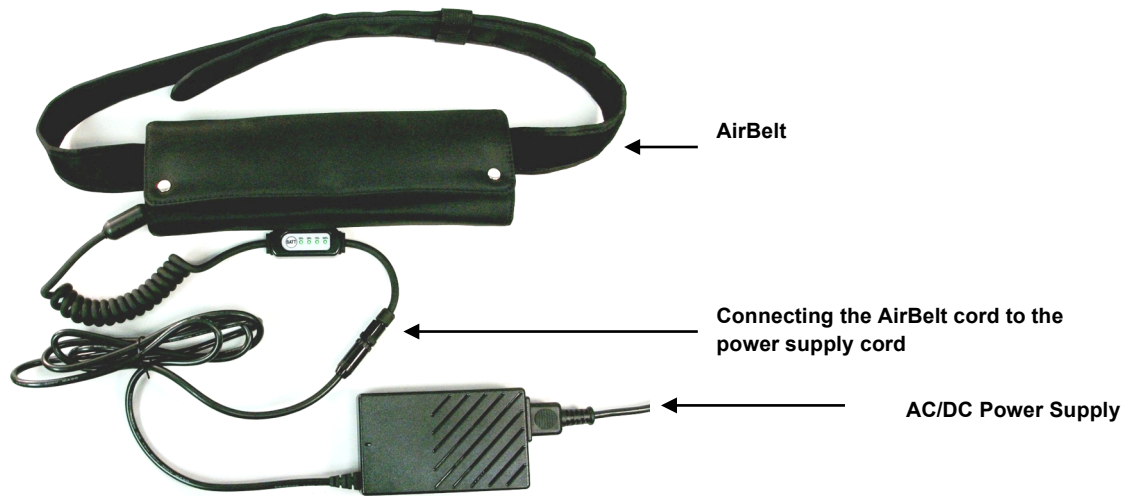

Figure 3.2: AirBelt Battery Charging set up
2. Connect the AC/DC power supply (included with the AirBelt Accessory kit) to the end of AirBelts power cord as shown in Figure 3.2.